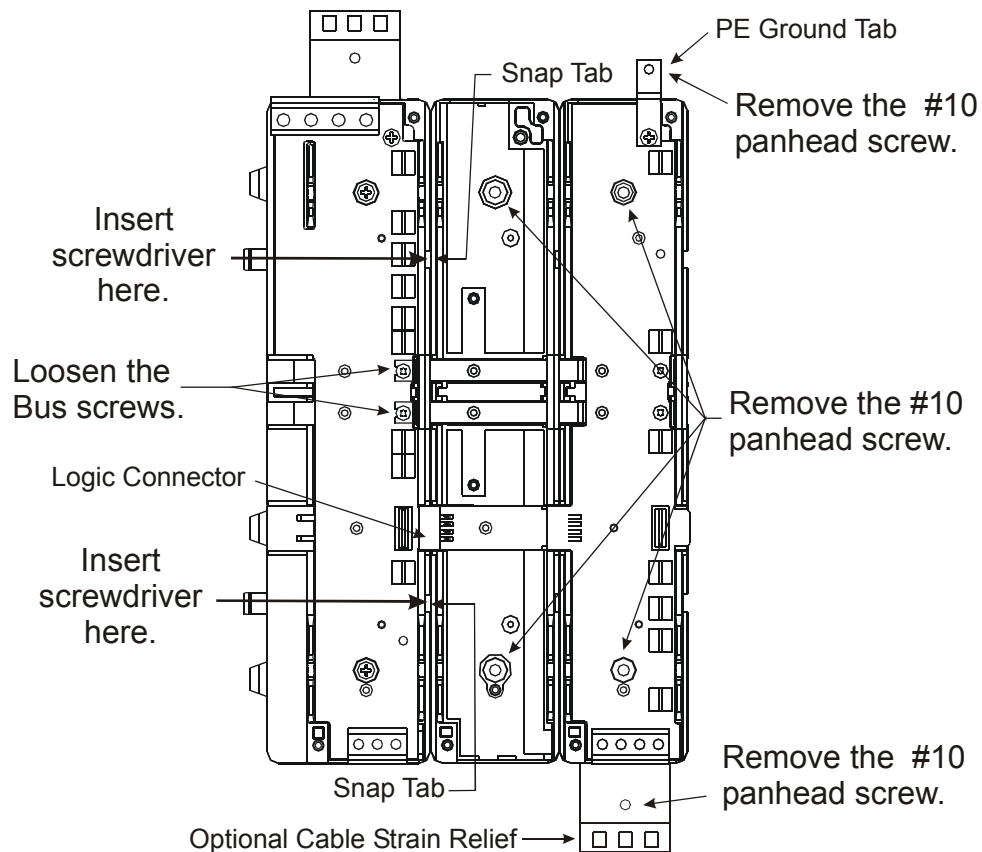

Figure 3: Drive Module Backplane Disassembly Diagram
5. Insert a flat tipped screwdriver into the slot between backplanes as shown in Fig 3. Push on the screwdriver with enough force to depress the snap tab, at the same time carefully pull the backplane away from the other backplane. The backplanes only need to be separated far enough so the snap tab is unlocked from the other backplane.